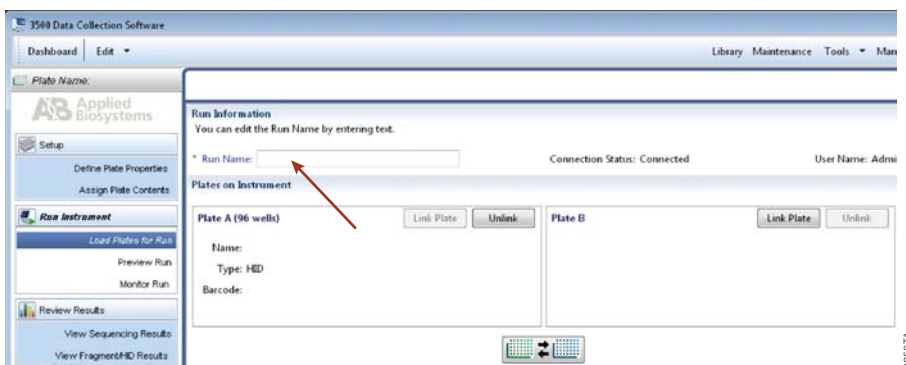

Figure 11. Assigning a run name.
18. In the Run Information window (Figure 11), assign a Run Name. Select “Start Run” (not shown).